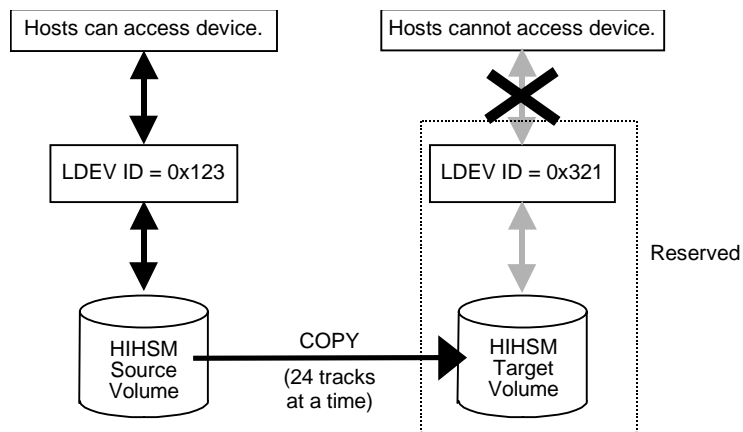

Figure 2.3 During a HIHSM Volume Migration Operation
- Copy the data on the HIHSM source volume to the HIHSM target volume (see Figure 2.3).